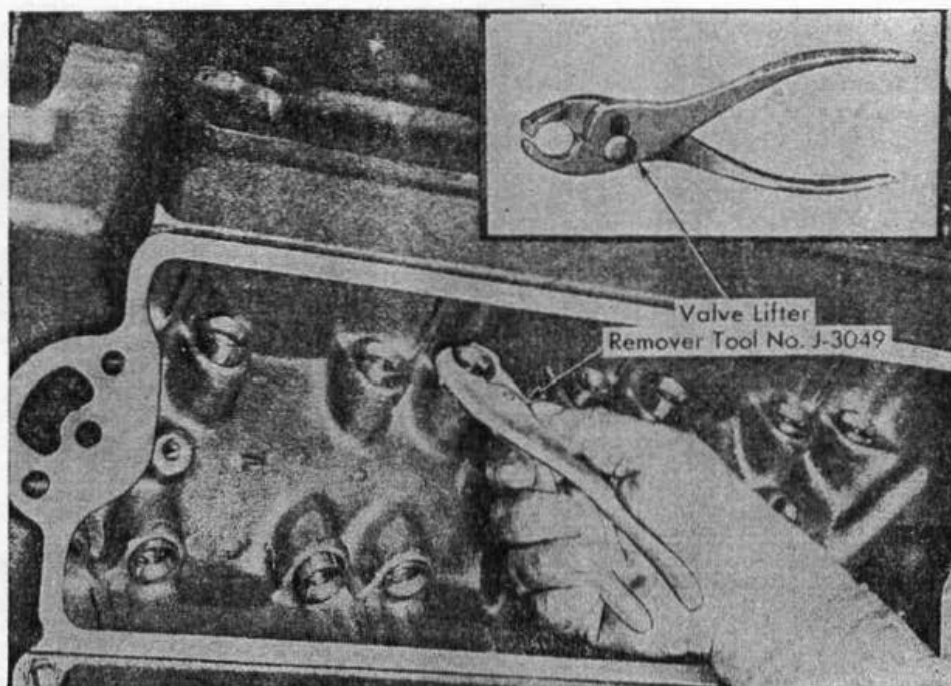

Fig. 10 Showing special pliers used to remove stuck valve lifters from 1949-54 engines
7. Using the tool shown in Fig. 10, remove lifters from engine, being sure to keep them in order so that they can be reinstalled in the same bore from which they were removed. Rotate valve lifter back and forth while lifting them out to remove